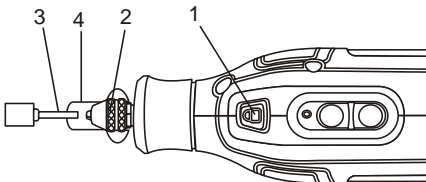

Fig. 1
2. Depress the spindle lock button (1) and slowly turn the 3-jaw chuck collet nut (2) until the spindle lock button locks the spindle (Fig. 1).
3. While holding the spindle lock button down, turn the 3-jaw chuck collet nut counter clockwise until the 3-jaw chuck jaws open far enough to allow the accessory bit shank (3) to be inserted into the 3-jaw chuck.
1. Lock the spindle using the spindle lock button (1) open the 3-jaw chuck (2) as shown in Fig. 1.
2. Insert the drive shaft (3) into the 3-jaw chuck as far as it will go.
3. Tighten the 3-jaw chuck onto the drive shaft as shown in Fig. 1.